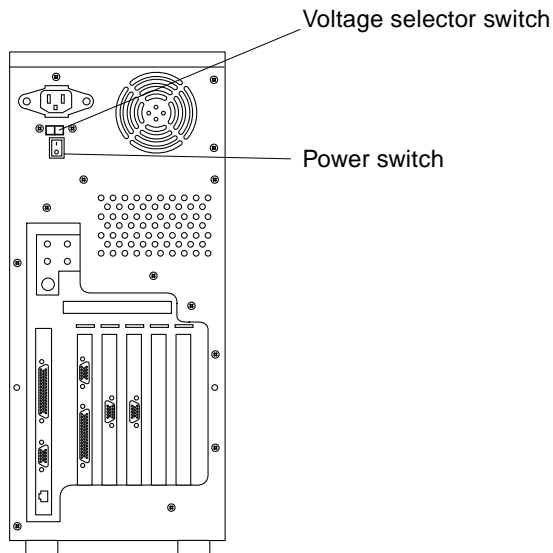

FIGURE 10-2 System Power Switch
4. Set the power switch to the on position (FIGURE 10-2).